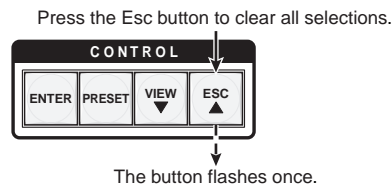

Figure 3-57 — Clear all selections
1. Press and release the Esc button (figure 3-57).